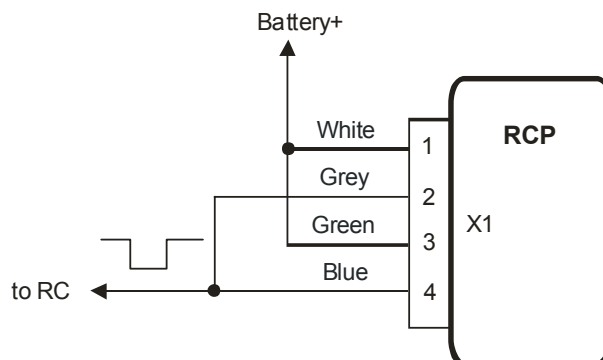

Figure 7
- The remote control with the only one output channel may be connected by the scheme at fig. 7 to add a possibility not only turn the heater on, but also turn the heater off too. Every one impulse on the output of the remote control receiver unit moves the heater to the opposite state: switch on the idle heater, switch off the operated heater. To realize this mode it is necessary to connect in pairs the inputs Heater_on+ with Heater_off+, and the inputs Heater_on- with Heater_off-.